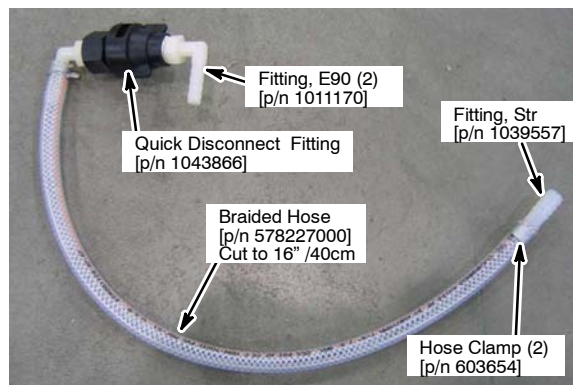

Fig. 23
5. Assemble the quick disconnect fitting assembly as shown (Figure 23). Using the remaining hose from the 3 ft kit hose [p/n 578227000], cut hose to 16 inches (40cm) in length. Use a thread sealer tape on all fittings.